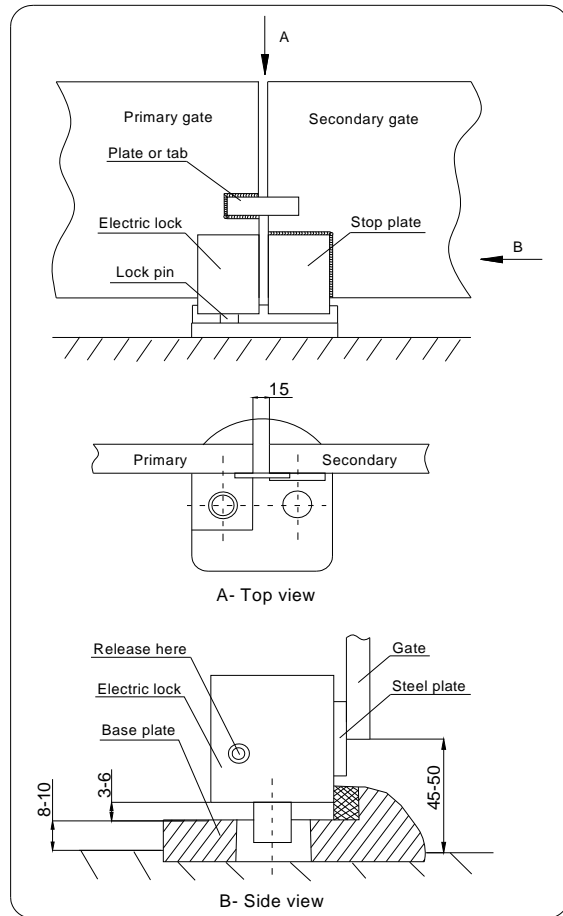

Fig.9
- Weld the steel plate of the lock to the primary gate, and then fix the lock to the steel plate. See Fig.9 to determine the height of the electric lock.
Stop plate (see Fig.9)